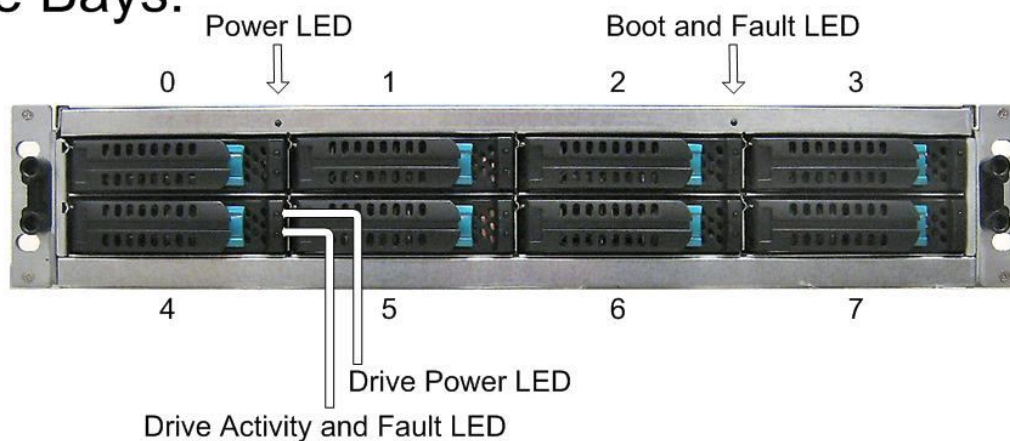

Figure 2-1 Front View of the DSN-2100 Storage System
- Power LED - shows the DSN-2100 power on status. (see Figure 2-1 and Table 2-1)
- Boot and Fault LED - shows whether the DSN-2100 is ready for operation or encountered a fault condition. (see Figure 2-1 and Table 2-1)
- The hard drive power and drive activity/fault LEDs. (see Figure 2-1 and Table 2-2)